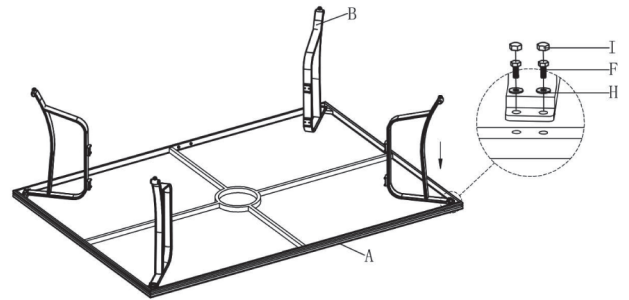

Figure1
Step 1. Carefully place the table top frame (A) upside down on a non-abrasive surface. Assemble the table legs (B) to the table top (A) with bolts (F) and washers (H) as show in Figure1.